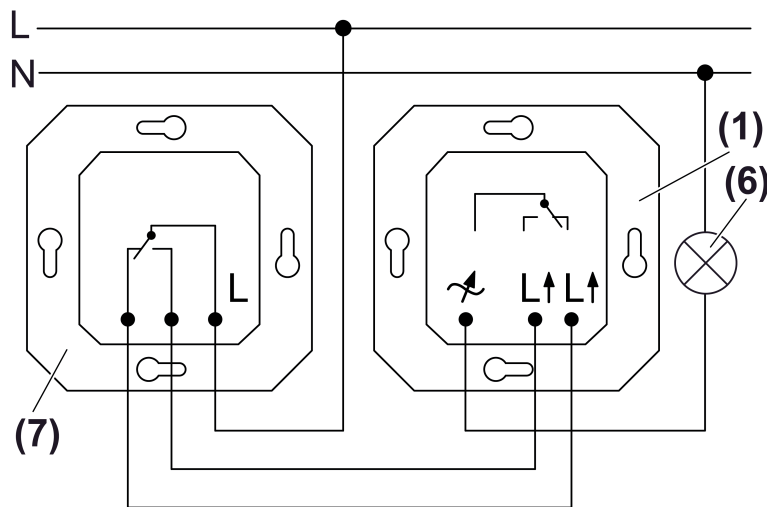

Figure 3: Changeover switch
- Connect the control unit (1), changeover switch (7) and lamp (6) according to the connection diagram (Figure 3).